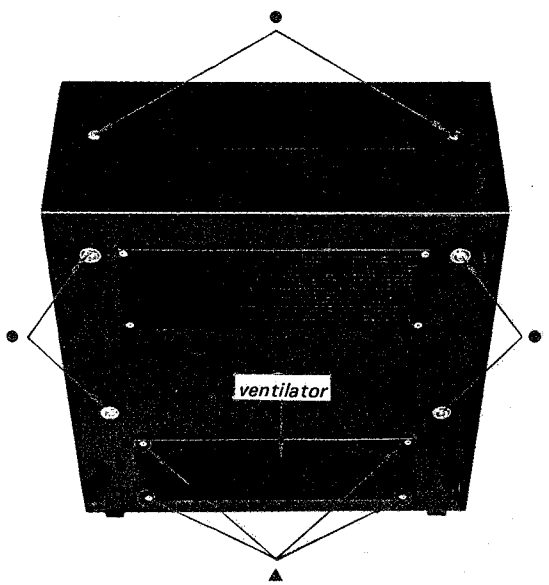

Fig. 2-2. Cabinet removal
- (1) Remove the six screws shown with ● in Fig. 2-2.
- (2) Take out the chassis from the cabinet.
Remove the ventilator by taking off four wood screws (⊕K 4x10) marked with ▲ in Fig. 2-2. Pull off the printed circuit boards.